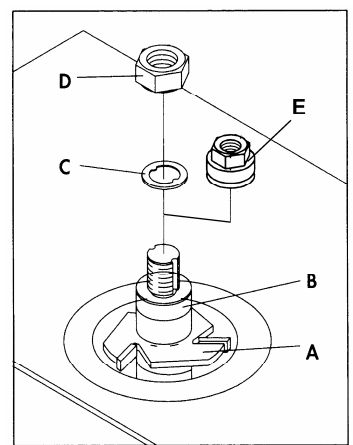

Fig.3.22
2. Place the cutter (A) Fig. 3.22, and desired spindle rings (B) on the spindle as shown.
3. Tighten nut (D) using the wrench supplied and disengage spindle lock.
《**WARNING**》 Always place the “keyed” washer (C) Fig. 3.22, on spindle before threading on nut (D).The “keyed” washer (C) prevents the nut (D), from loosening when spindle turns counterclockwise.